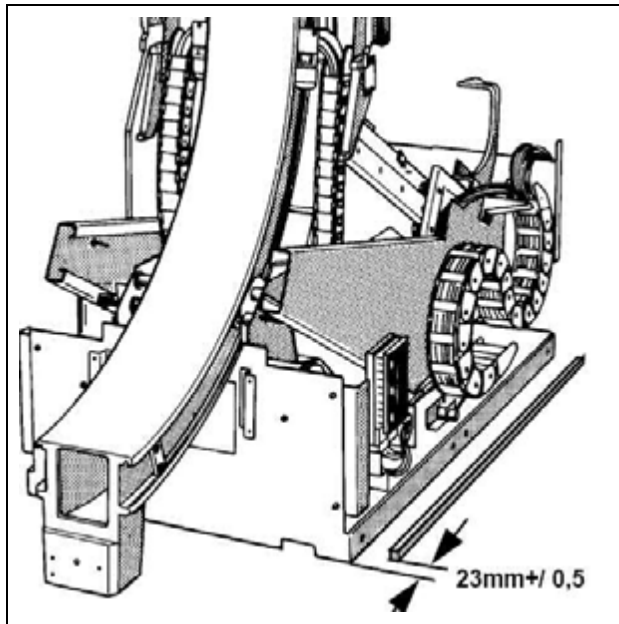

Fig. 15: Transverse system_X_drive
- Move the unit carrier to the front far enough so that the front edge of the front plate is 23 mm \pm 0.5 mm in front of the rail edge. ((Fig. 15 / p. 49))